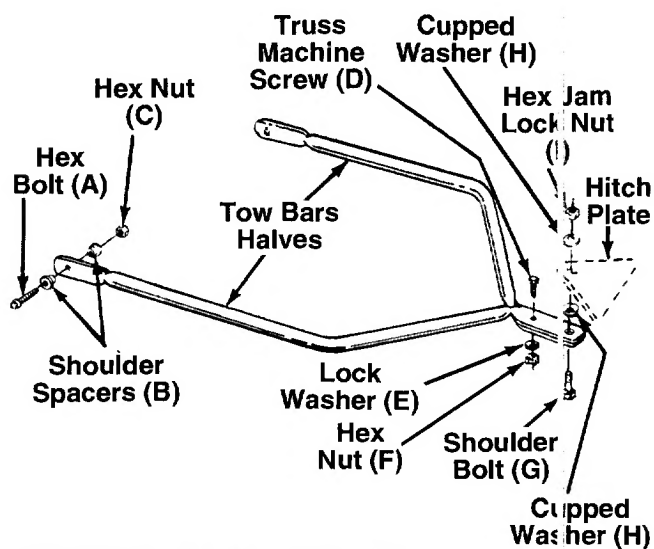

FIGURE 15.—Optional Tow Bar
2. Place one bar half in position on frame of vacuum. Place one shoulder spacer (B) between frame and tow bar. Next, place shoulder spacer (B) and hex bolt (A) through tow bar and frame. Secure with hex nut (C). See figure 15. Repeat on other side.
3. Secure the two tow bar ends together with truss machine screw (D), lock washer (E) and hex nut (F). See figure 15.
To attach the tow bar to a hitch, place the shoulder bolt (G) up through the tow bar. Place one cupped washer (H) on the shoulder bolt, then the hitch plate and the other cupped washer. Cupped side of the washers must be against the hitch plate. Secure with hex jam lock nut (I). See figure 15.